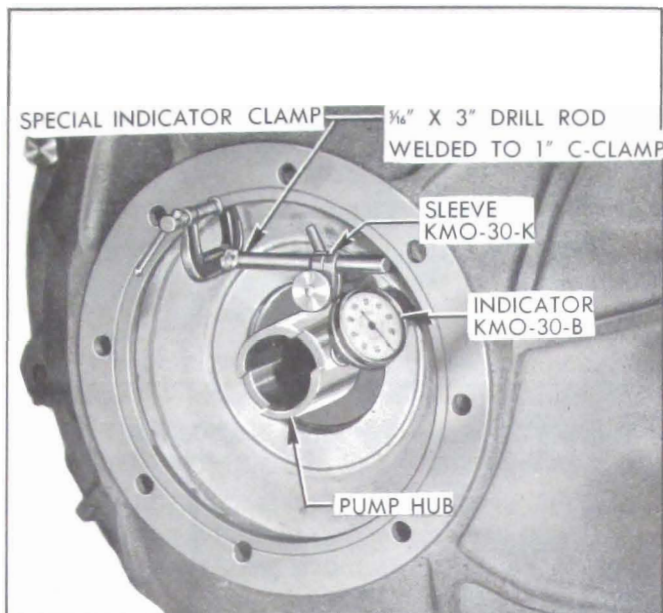

Figure 5-69—Checking Run-Out of Converter Pump Hub
3. Prepare a special dial indicator clamp by welding a piece of $5/16''$ x 3'' drill rod to a 1'' C-clamp. Use the special clamp and Sleeve KMO-30-K to mount Dial Indicator KMO-30-B so that indicator stem bears against the pump hub as shown in Figure 5-69.